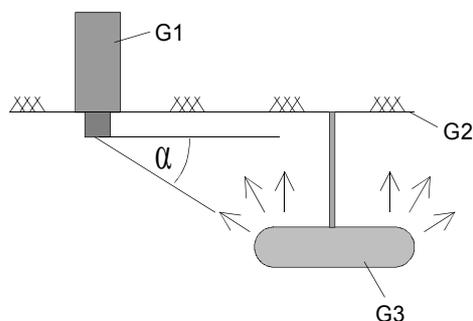

Figure 6: mounting GE 254
- It is designed for indirect illuminations, i.e. the reflection angle  $\alpha$  of the raised luminaires to the receiver should not exceed  $23^\circ$ . Angles exceeding this limit increase the measurement error due to partial direct radiation into the tube.  $\alpha = 40^\circ$  is regarded as the absolute maximum limit of the angle (see figure 6)